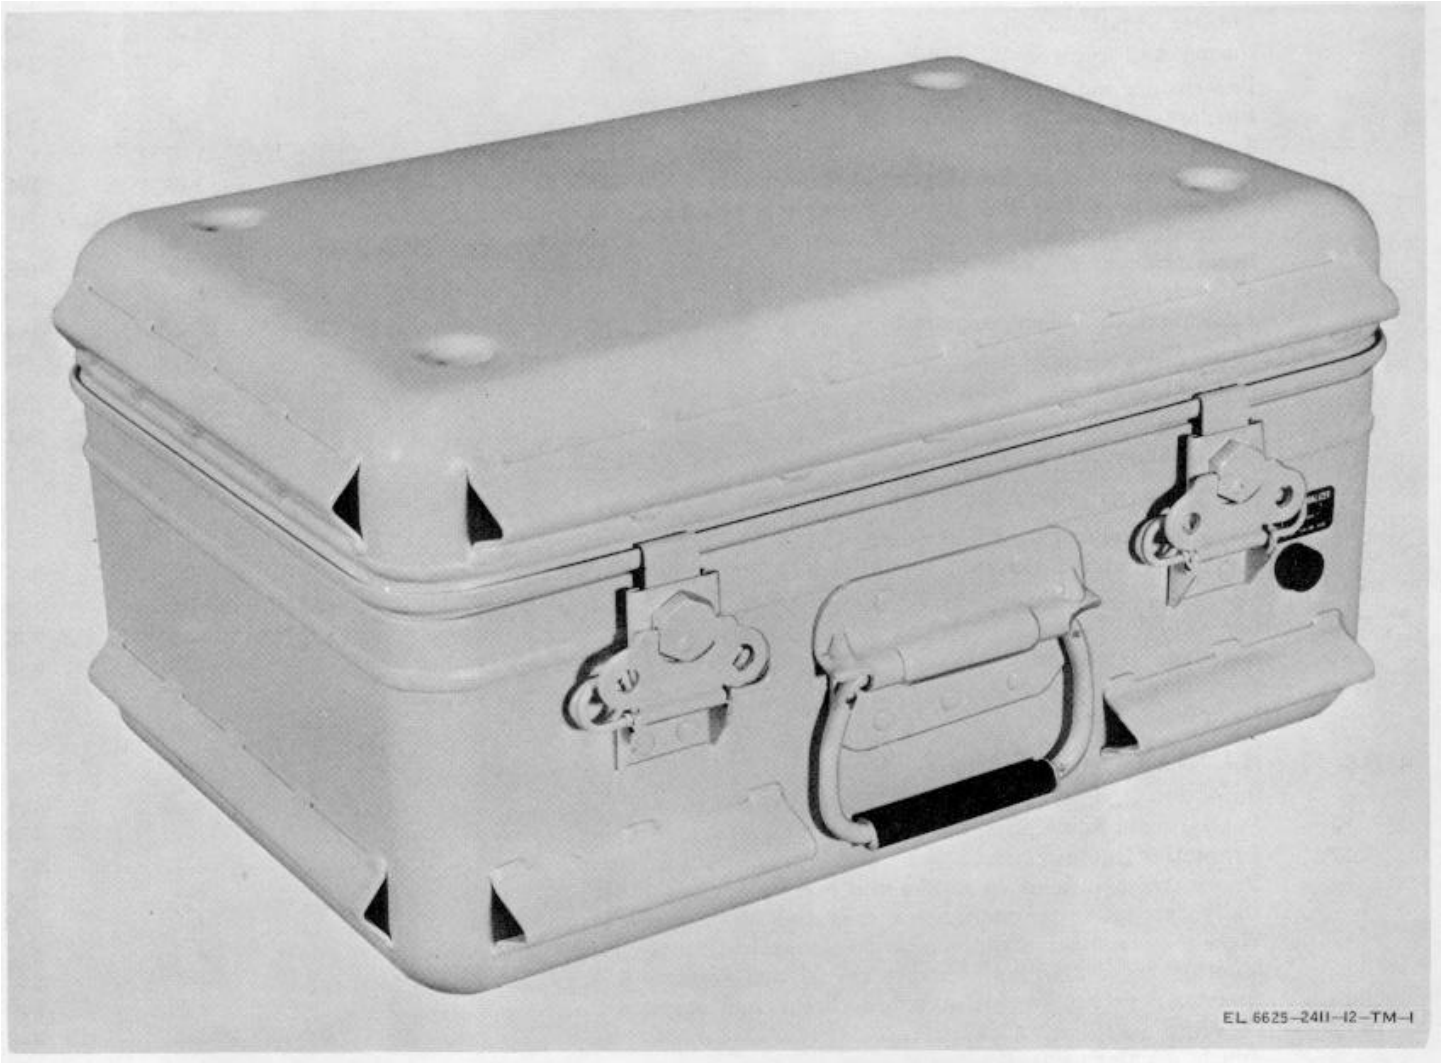

Figure 1-1. Test Set, Signal Converter AN/ASM-416.
a. This manual describes Test Set, Signal Converter AN/ASM-416 (fig.1-1) and provides instruction for unpacking, setup, general operation, and operator and organizational maintenance. It includes instructions for operation, cleaning and inspection of the equipment, and replacement of parts available to the operator and organizational repairman.